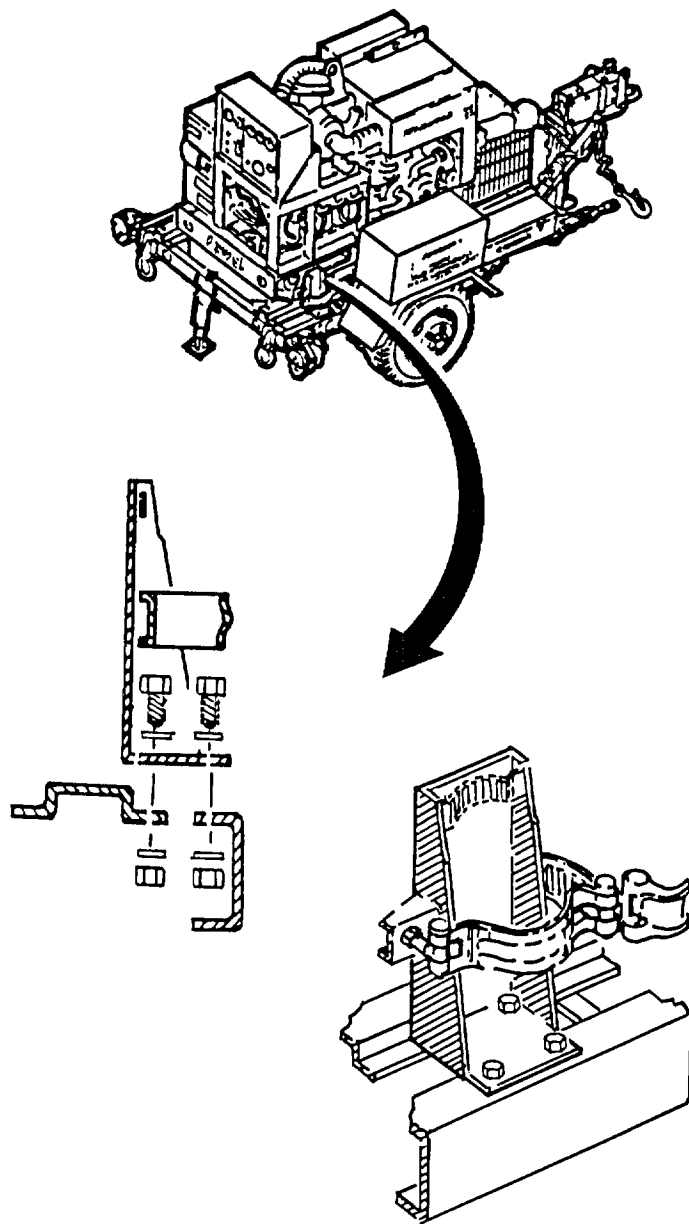

Figure 4-13. Mounting Bracket, Fire Extinguisher.
**4-22. MOUNTING BRACKET, FIRE EXTINGUISHER (Figure 4-13).**